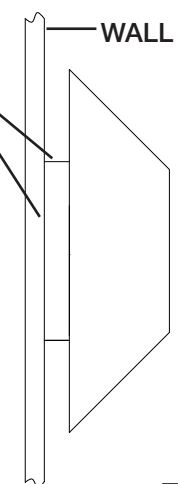

FIGURE 2
- 8) With silicone RTV caulk, caulk completely around the housing/wall joint on the top and both sides. Caulk should not be applied to the bottom joint (see figure 2).